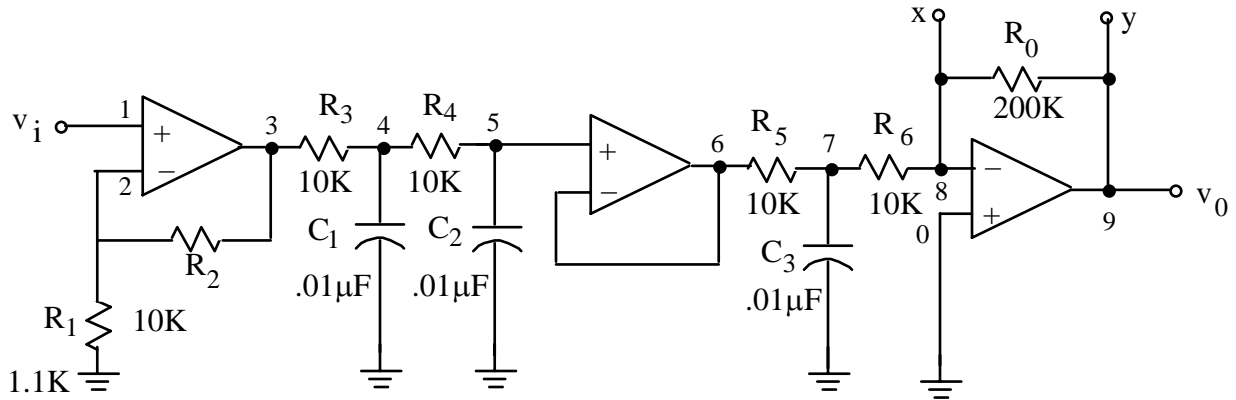
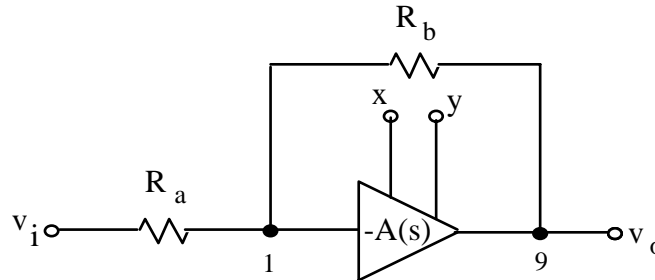
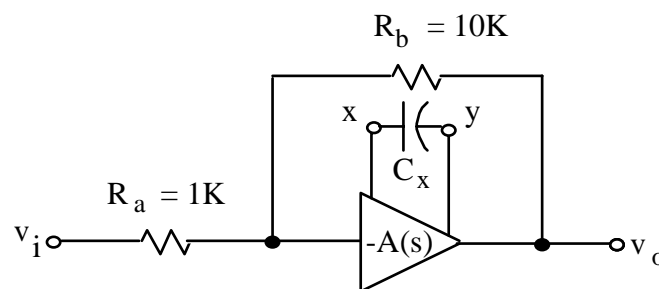

Fig. 1.
Fig. 2. Uncompensated shunt feedback amplifier.
Fig. 3. Dominant pole compensated feedback amplifier.
To avoid this problem, the "high-frequency" poles of the amplifier we build are deliberately and accurately set to relatively low frequencies by external resistors and capacitors. In Fig. 1 below, these are  $R_3$ ,  $R_4$ ,  $R_5$ ,  $R_6$ ,  $C_1$ ,  $C_2$  and  $C_3$ .
- a. Build the amplifier shown in Fig. 1. Use resistors and capacitors within  $\pm 10\%$  of the values shown in Fig. 1. However, you are to accurately measure and record your component values for later use in calculations. You may use any general purpose op amp, like a 741. Power supplies should be  $\pm 10V$ .
**The circuit you just built in Part 1 is meant to act as an op-amp, where  $v_i$  (in Fig. 1) is the negative input, and the positive input is implicitly grounded.** This circuit has a high input resistance, low output resistance, and reasonably high gain. The capacitors  $C_1$ - $C_3$  limit the high-frequency response of this amplifier, playing the role that internal transistor parasitic capacitances play in actual IC (integrated circuit) op-amps.
in several different ways and characterize its performance for each different feedback example. You will find that stability is not always assured, and the frequency-dependent properties of the op-amp (our Fig. 1 circuit) have a large effect on this stability or instability.
Connect a shunt feedback network around the amplifier, as shown in Fig. 2. The triangular block represents the entire 3-stage amplifier of Fig. 1 (i.e., our “op-amp”). Note that this corresponds to the familiar “inverting amplifier” op-amp configuration. What would you expect the gain to be in this case? Note that terminals  $x$  and  $y$  should be left open, and the 200-Kilohm resistor labeled  $R_0$  in Fig. 1 should **not** be removed.
First, referring to Fig. 2, let  $R_a = 1 \text{ k}\Omega$  and  $R_b = 3.3 \text{ k}\Omega$  (measure their exact values). Observe the output with your oscilloscope with  $v_i = 0$  (connect the input to ground). Does the feedback amplifier oscillate? If so, sketch the waveform at  $v_o$ , and record peak amplitudes (both positive and negative, with your scope coupling set to dc) and the period.
Compensation is a technique used to make op-amps stable under closed-loop feedback conditions. Typically, a pole is introduced which is lower than the other high-frequency poles in the circuit. Will compensate our "op-amp" from Fig. 1 by adding a capacitance  $C_x$  across terminals x and y as shown in Fig. 3. Calculate the required value of  $C_x$  as outlined below.
constants approximate method does not work well for this circuit. Use ideal models for the opamps and write node equations to solve for  $A(s)$ . It will be useful to break up the circuit into several subsections and solve for the gain of each one independently [i.e.,  $A(s) = A_1(s)A_2(s)A_3(s)$ ]. Then make a Bode magnitude plot using your measured component values and determine the dominant pole frequency. Then find the value of  $C_x$  as outlined on pp. 849-850 of the text. Wire  $C_x$  (using the closest available standard value) into the circuit between terminals x and y, as shown in Fig. 3.
Now check the sensitivity of the amplifier closed-loop gain to the open-loop gain, by temporarily changing  $R_2$  in Fig. 1 to 20K (a 100% change in open loop gain). Measure the resulting closed-loop gain.